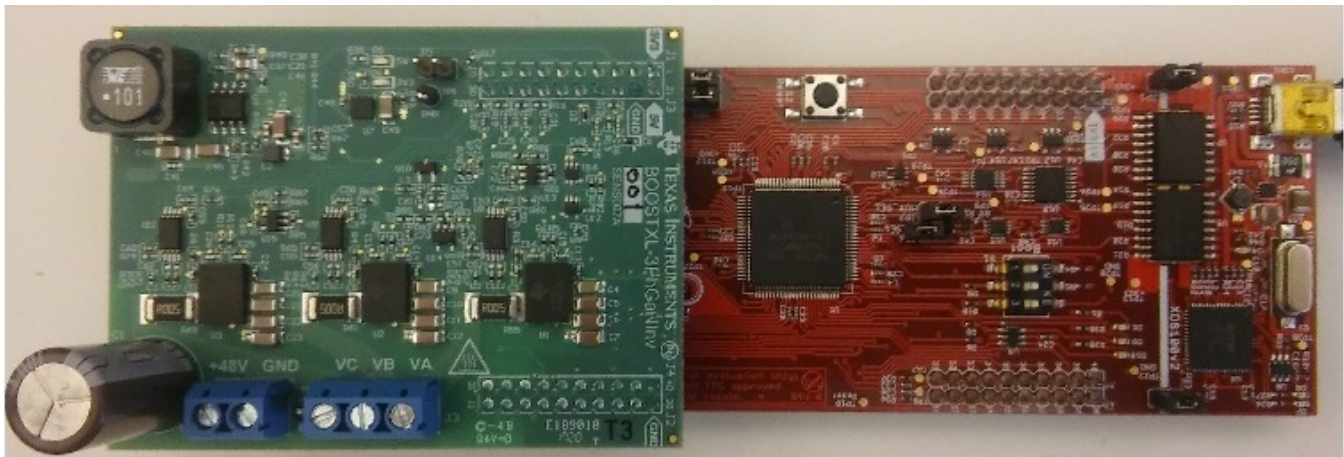

Figure 6. BOOSTXL-3PhGaNInv EVM LaunchPad™ Connection Example
- When J6 is populated so that the BOOSTXL-3PhGaNIInv EVM provides the 3.3 V to supply the LaunchPad, ensure that the LaunchPad is not powered from a USB. Alternatively, remove J6 and power the LaunchPad through USB by populating JP1 and JP2 jumpers on the InstaSPIN-MOTION LaunchPad, as Figure 6 shows.
Figure 6 shows the BOOSTXL-3PhGaNIInv EVM connected to the InstaSPIN-MOTION LaunchPad headers J5 through J7 and J6 through J8. Note that the BOOSTXL-3PhGaNIInv EVM J6 is removed and the jumpers JP1 and JP2 on the LaunchPad are populated. The LaunchPad is powered by the USB port in this configuration.
The software example is created for the InstaSPIN-MOTION LaunchPad using headers J5 or J7 and J6 or J8. Ensure the EVM board is connected to the InstaSPIN-MOTION LaunchPad as Figure 6 shows.